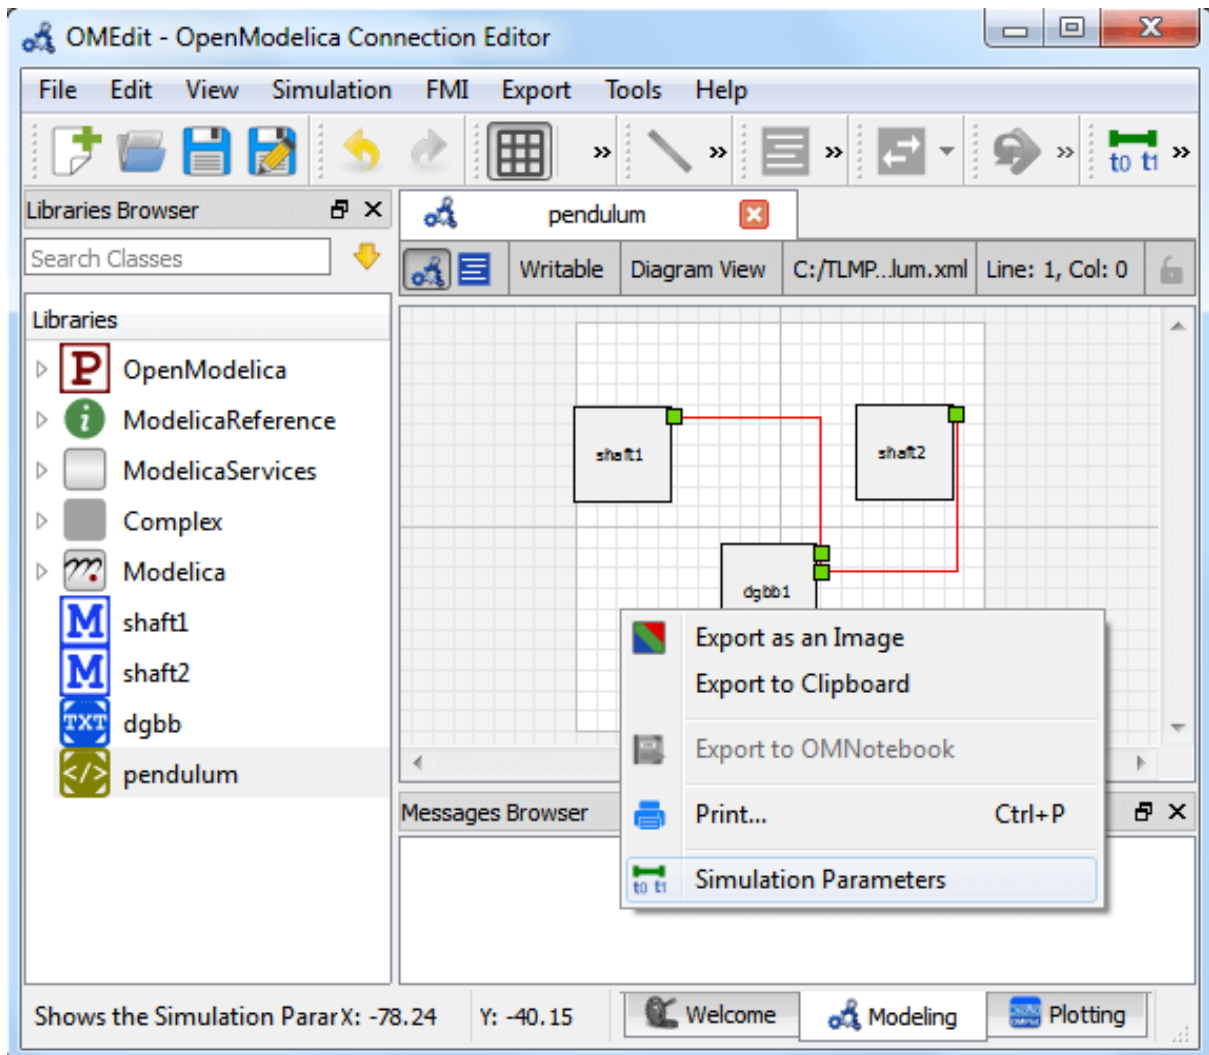

Figure 7.15: Changing Co-Simulation Parameters from the Popup Menu.
- Right click an empty location in the Diagram View of the composite model and choose **Simulation Parameters** from the popup menu (see Figure 7.15)